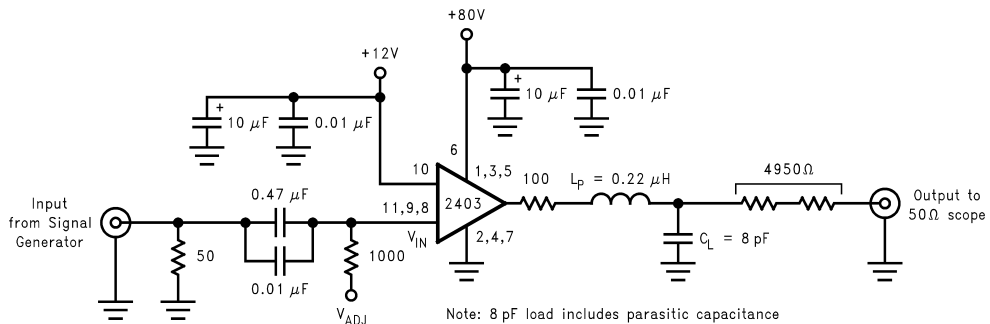
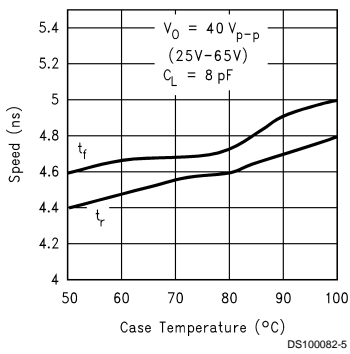

FIGURE 2. Test Circuit (One Channel)
FIGURE 4. Speed vs Temp.
(See Figure 2 for Test Circuit)
Figure 2 shows a typical test circuit for evaluation of the LM2403. This circuit is designed to allow testing of the LM2403 in a 50Ω environment without the use of an expensive FET probe. The 4950Ω resistor at the output forms a 100:1 voltage divider when connected to a 50Ω load.
*Figure 2* shows a typical test circuit for evaluation of the LM2403. This circuit is designed to allow testing of the LM2403 in a 50 $\Omega$  environment without the use of an expensive FET probe. In this test circuit, two low inductance resistors in series totaling 4.95 k $\Omega$  form a 100:1 wideband low capacitance probe when connected to a 50 $\Omega$  cable and load. The input signal from the generator is ac coupled to the base of Q1.
Figure 4 shows the performance of the LM2403 in the test circuit shown in Figure 2 as a function of case temperature. The figure shows that the speed of the LM2403 decreases by less than 10% as the case temperature increases from 50°C to 100°C. This corresponds to a speed degradation of 2% for every 10°C rise in case temperature.